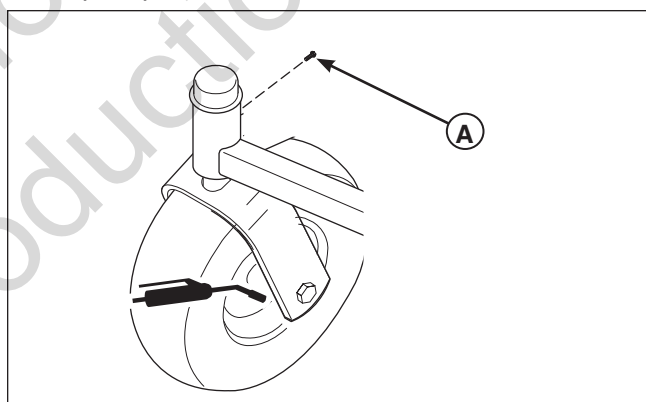

Figure 18. Front Caster & Wheel
1. Remove the 1/4-28 bolt (A, Figure 18) screwed into the front caster and install a 1/4-28 grease fitting.